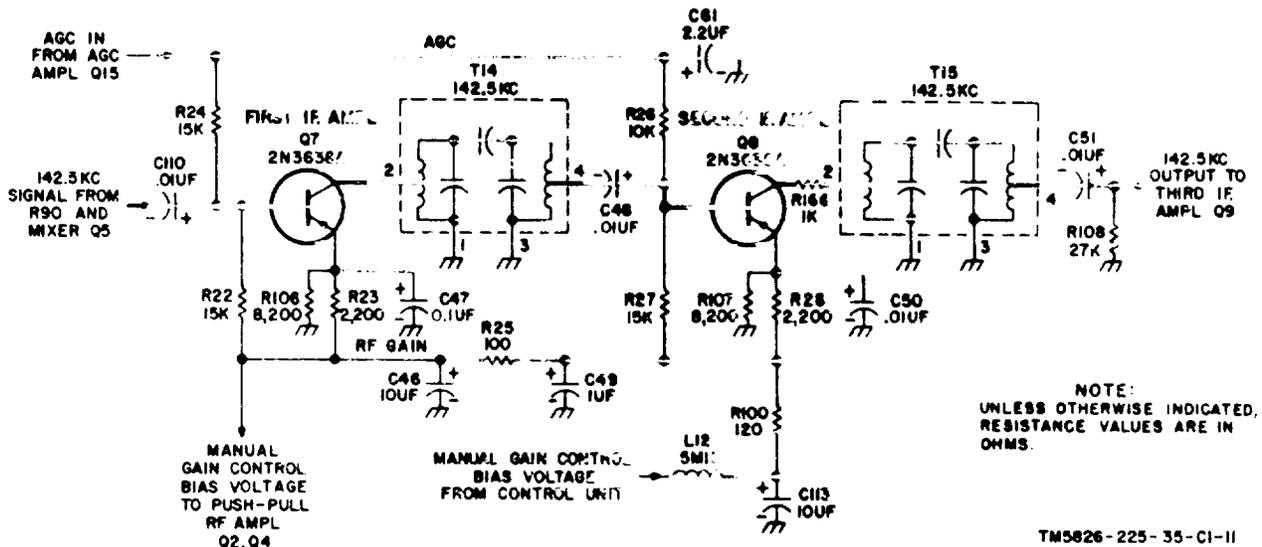

Figure 1-5. First and second IF amplifier stages, schematic diagram.
a. *First and Second IF Amplifiers (fig. 1-5).* The 142.5-kc signal from mixer Q5 passes through capacitor C110, is amplified by first IF amplifier Q7, and applied through fixed tuned IF transformer T14 and capacitor C48 to second IF amplifier Q8. The R166 to output from Q8 is applied through fixed tuned IF transformer T15 and capacitor C51 to third IF amplifier Q9. Transformers T14 and T15, have a resonant frequency of 142.5 kc with sufficient bandwidth to pass all of the audio sidebands. In all operating modes of the direction finder set, the gain of Q7 and Q8 is controlled by agc voltage applied to the bases through R24 and R26, respectively. This voltage becomes more positive for decreasing gain or less positive (more negative) for increasing gain. In loop and antenna operating modes, the gain of Q7 and Q8 in addition to being controlled by an agc circuit, can also be manually controlled by voltage derived from the control unit gain control. This voltage, applied through low-pass filter L12 and C113, controls both emitter and base bias of Q7 and Q8. In adf mode, only audio gain can be manually controlled.